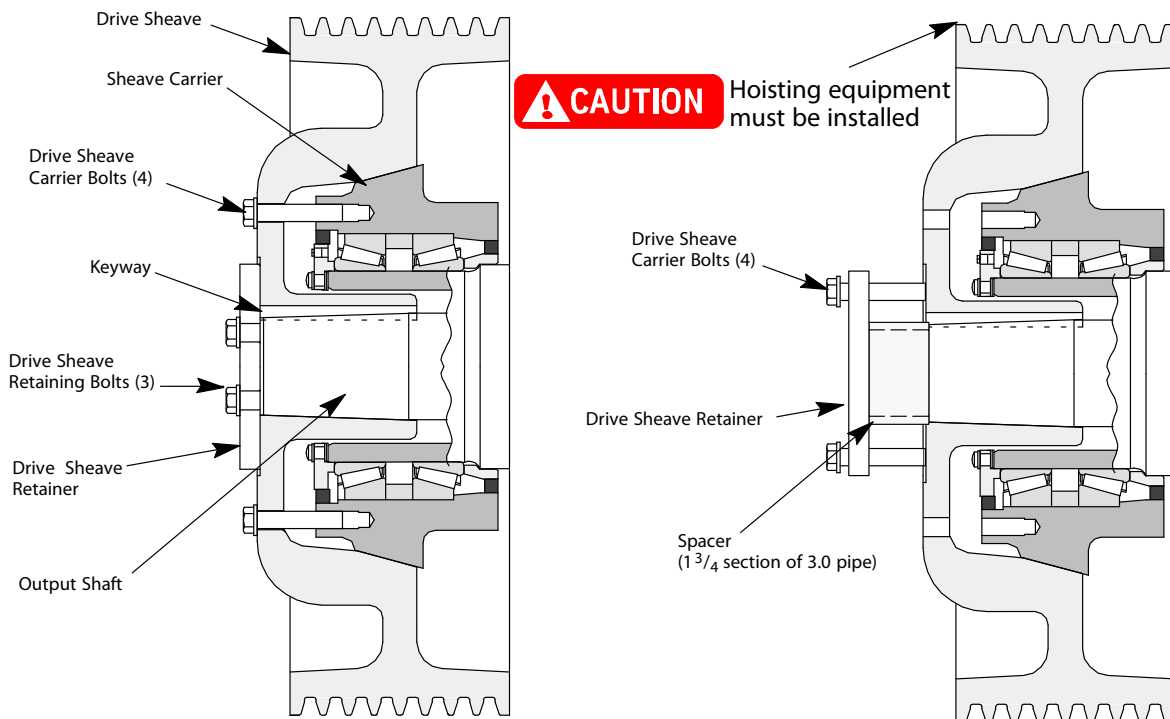

Figure 41 - Replace the Drive Sheave Retainer
8. Remove the four (4) drive sheave carrier bolts. See Figure 41.
9. Remove the three (3) drive sheave retaining bolts, and remove the drive sheave retainer.
11. Replace the drive sheave retainer - Use three (3) of the long drive sheave carrier bolts, and put these bolts through the outer set of holes that line up with the threaded holes in the sheave.
12. Equally tighten the three (3) bolts in the drive sheave retainer until all bolts are tight. Do not overtighten the bolts. Sharply strike the center of the retainer plate with a hammer. This action should produce slack in the bolts.